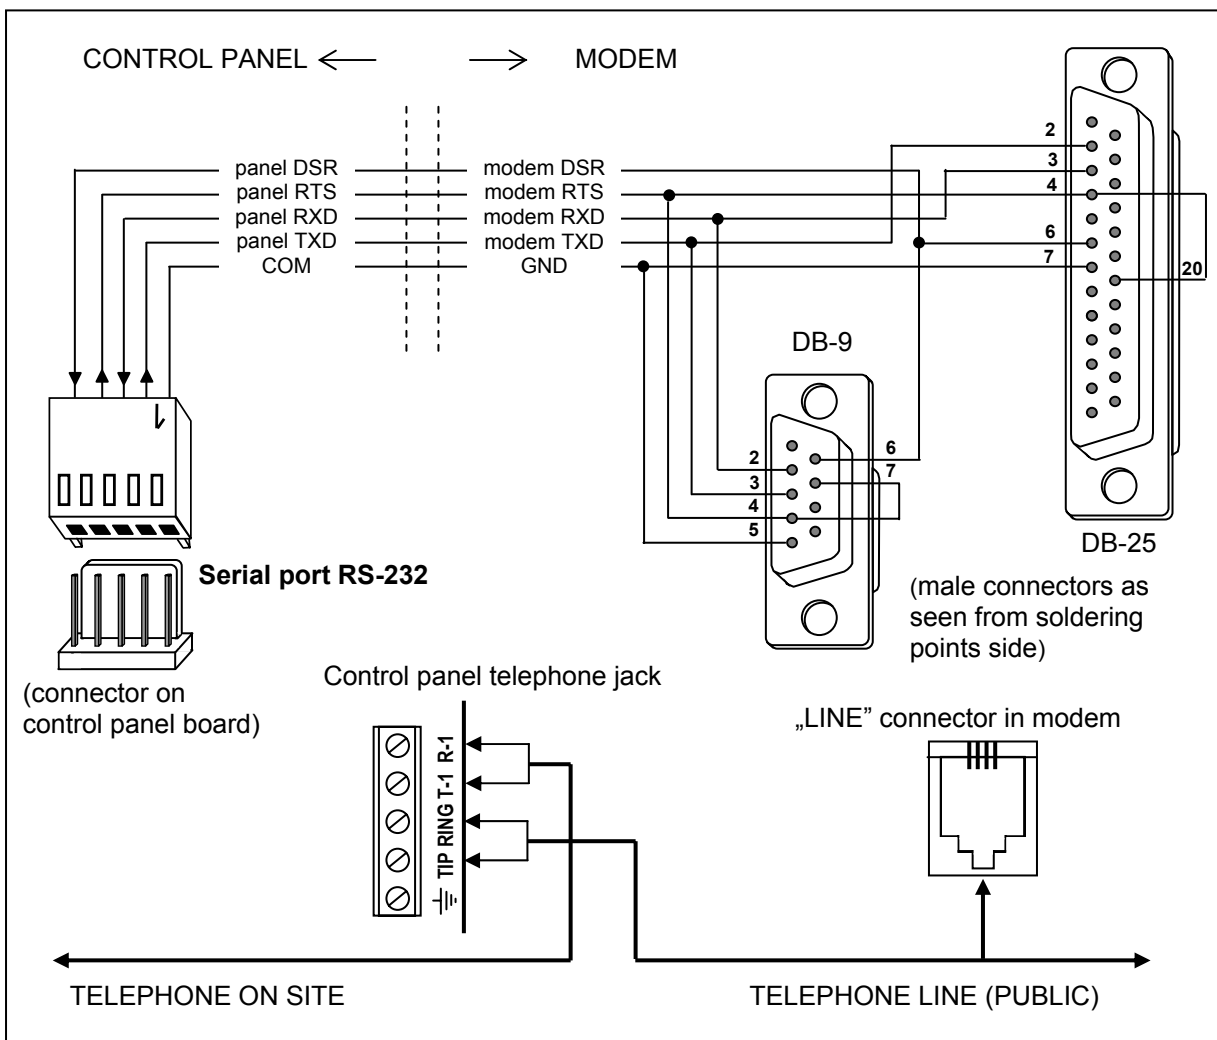

Fig. 32. Connection of external modem to the control panel.
- Using a suitable cable, connect the panel RS-232 port to the modem port (Fig. 32).